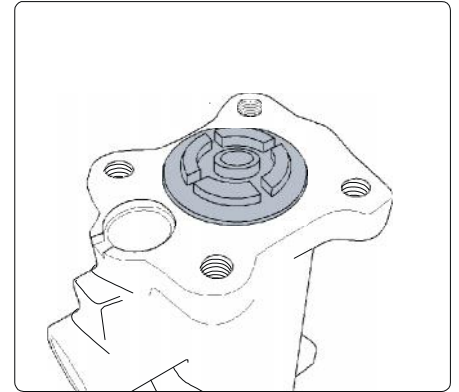

FIG3
12. Remove throttle valve stem (FIG1), clean/remove dirt (FIG2) insert back into tool (FIG3)